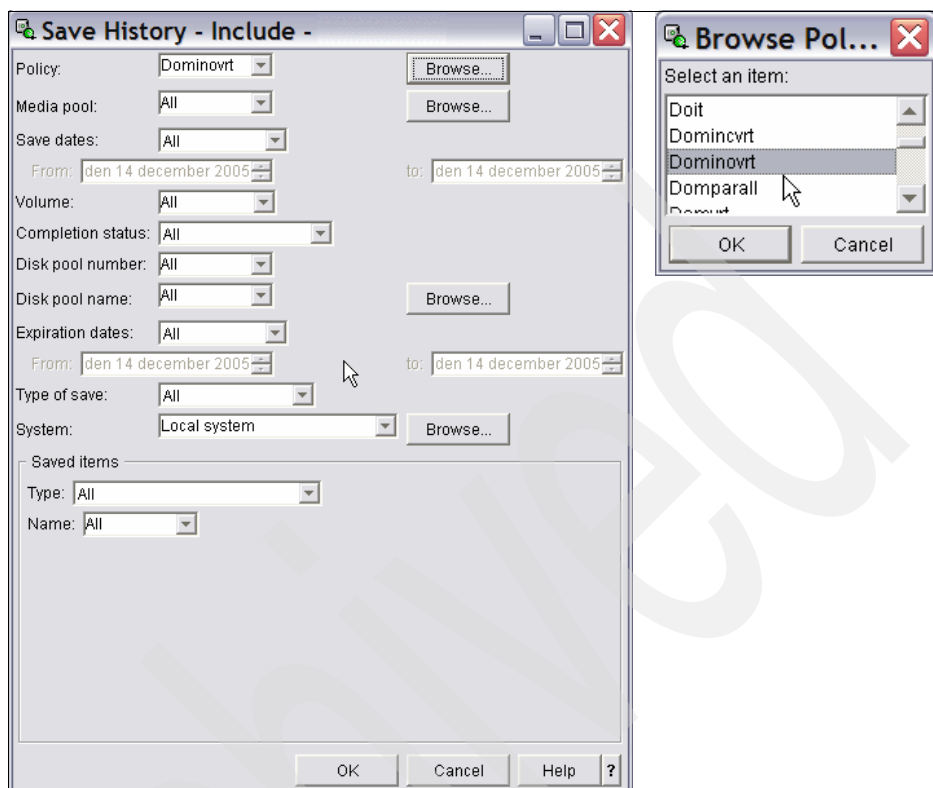

Figure 5-83 Restore Domino data with BRMS, Save History Include
3. In the Include window shown in Figure 5-83 on page 264, fill in the values pertaining to the policy to be restored and the corresponding dates.